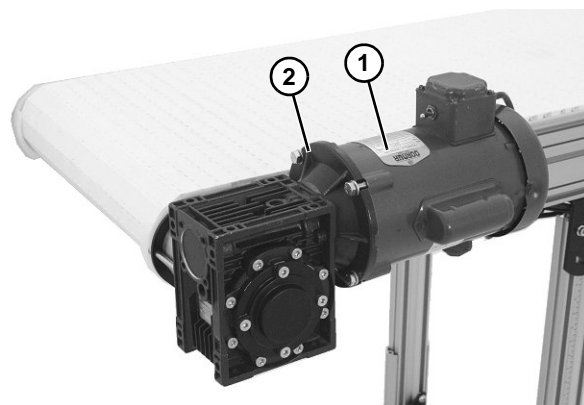

Figure 37
1. Attach the motor (Figure 37, item 1) to the gear reducer (Figure 37, item 2). (End Drive shown below.)